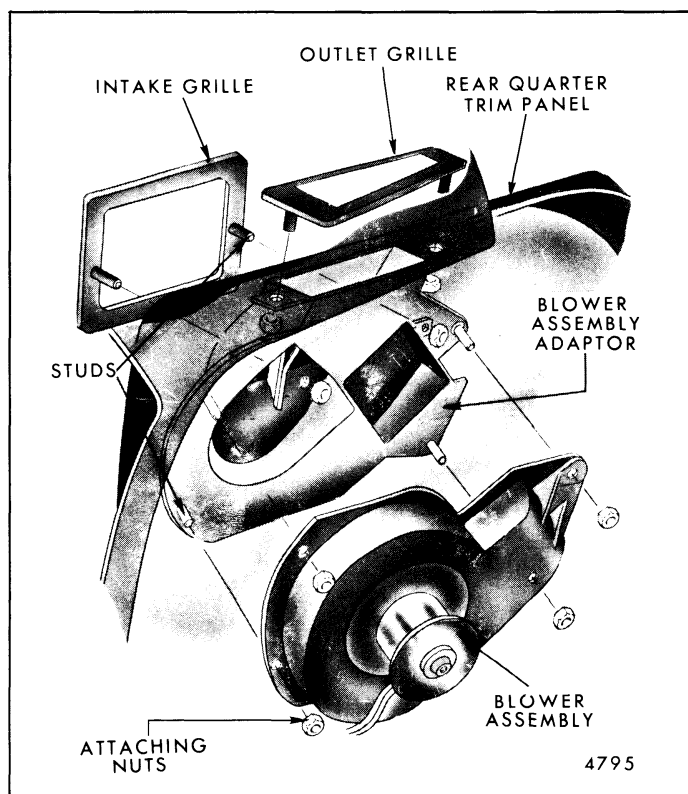

Fig. 6-21-Back Window Defogger - "X-17" Styles
3. On "X-17" styles remove four (4) attaching nuts from blower adaptor studs to separate blower assembly from adaptor. Then, remove two (2) attaching nuts from both intake and outlet grilles to complete disassembly (see Fig. 6-21).